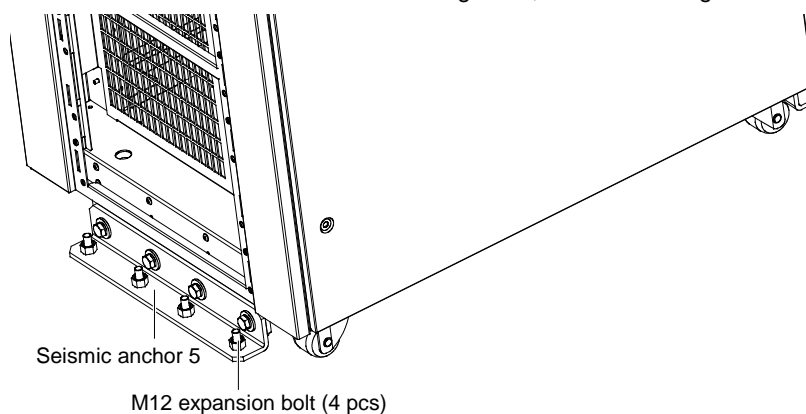

Figure 8-14 Fixing seismic anchor 5 on the ground
6. Use four M12 expansion bolts to fix seismic anchor 5 on the ground, as shown in Figure 8-14.